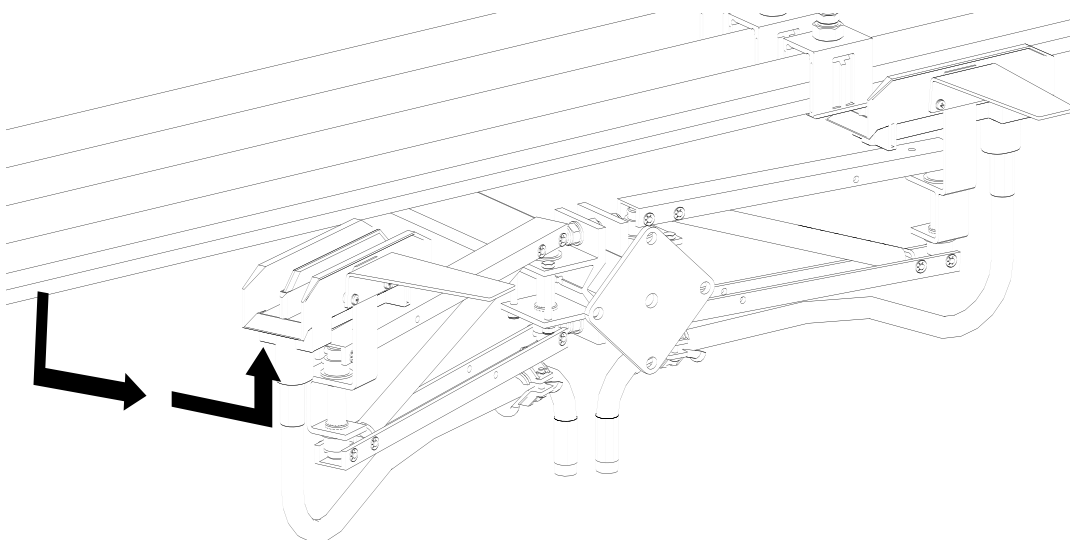

Fig. 122: Remove the current collector from the conductor rail
- Pull the current collector down and turn it out from the side to be able to remove the current collector from the conductor rail (see Fig. 122). In case of more than three poles, the current collector may have to be dismantled from the towing device.